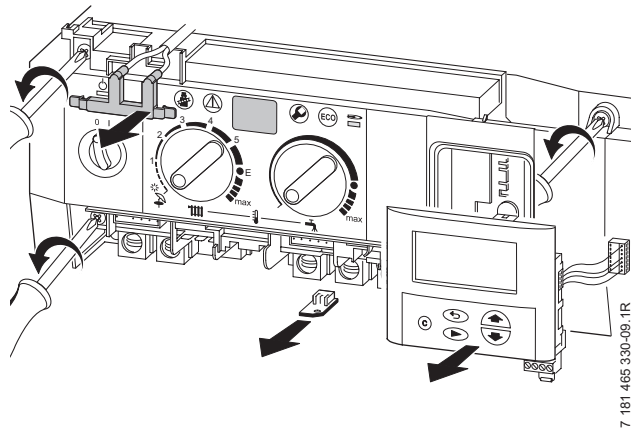

Fig. 55
- Remove two top fixing screws from the control box. Refer to fig. 55.